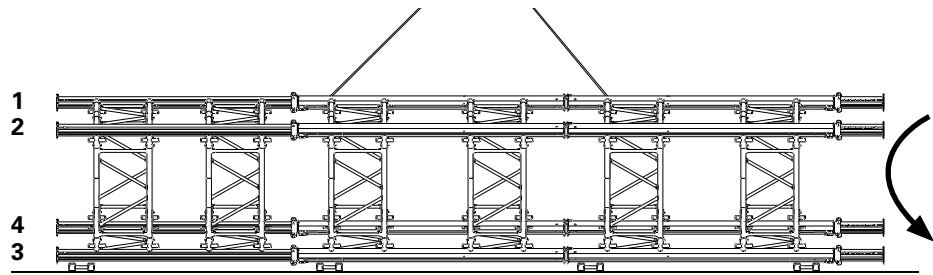

Fig. A3.08
2. With a 2-sling lifting gear, attach the tower on one side and symmetrically to the tower height. (Fig. A3.08)